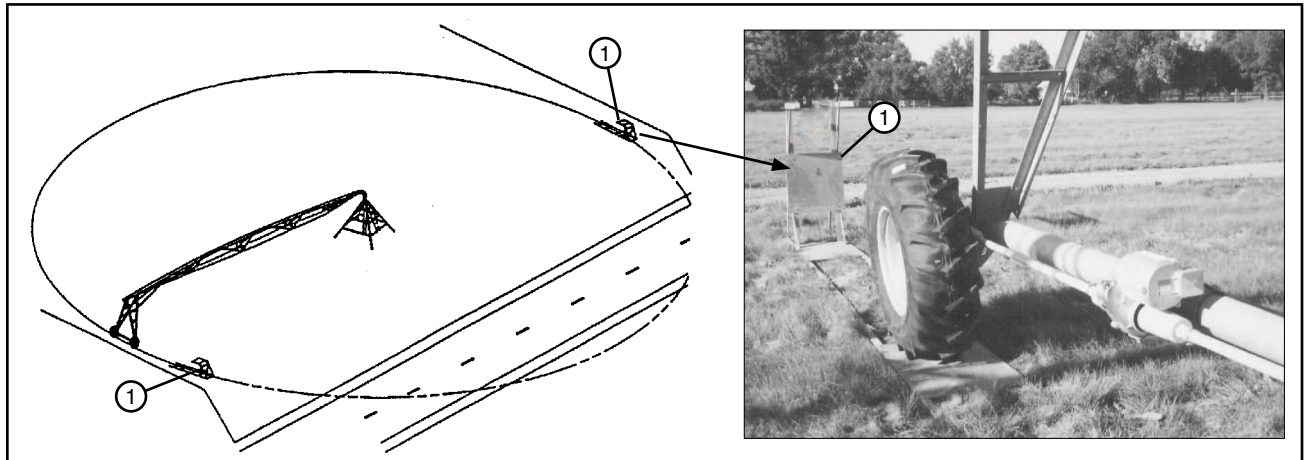

Figure 29-1 1. Physical barricad
• **PHYSICAL END OF FIELD STOP BARRICADES MUST BE INSTALLED ON ALL PART CIRCLE MACHINES. THE PHYSICAL BARRICADES SERVE AS A BACKUP IN CASE THE CIRCUITRY OR THE TRIP STRUCTURE SHOULD EVER FAIL. DELETION OF THE PHYSICAL BARRICADES CAN BE DONE BY THE CUSTOMER ONLY. SEE FIGURE 29-1.**